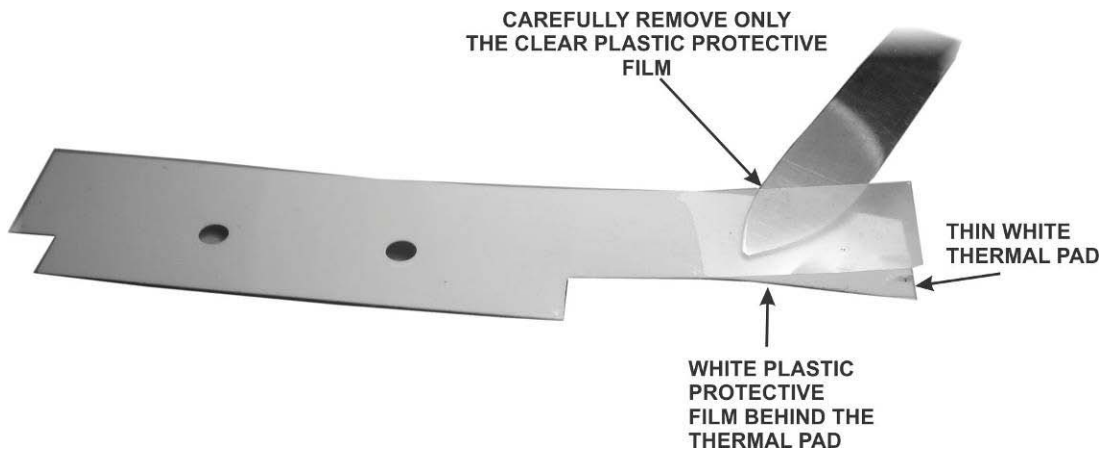

Figure 38. Preparing the Thermal Pad.
□ Locate the thermal pad and carefully separate the *clear* protective coating from one side. There are three layers: a clear plastic protective film, the very thin thermal pad itself, and a white plastic protective film. The three layers are shown in Figure 38. **Remove only the clear plastic protective film to expose the adhesive surface of the thin white thermal pad underneath.** A sharp knife is handy for separating the layers. Work carefully to avoid separating the very thin thermal pad from the white protective film underneath. The thermal pad wrinkles easily if it is allowed to separate from the white plastic and will not work properly unless it remains flat.